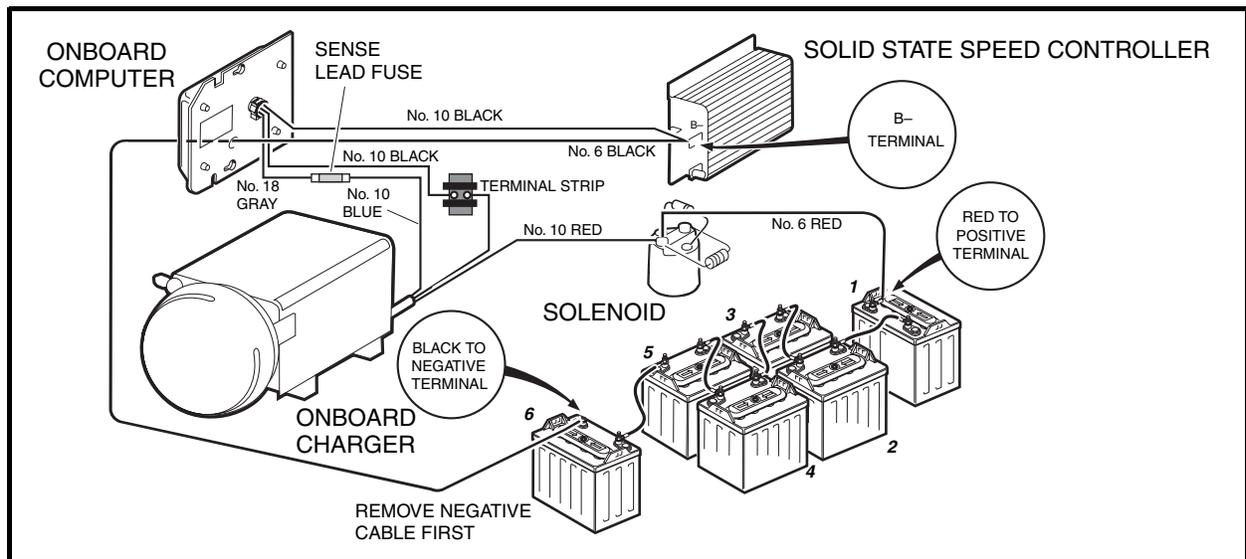
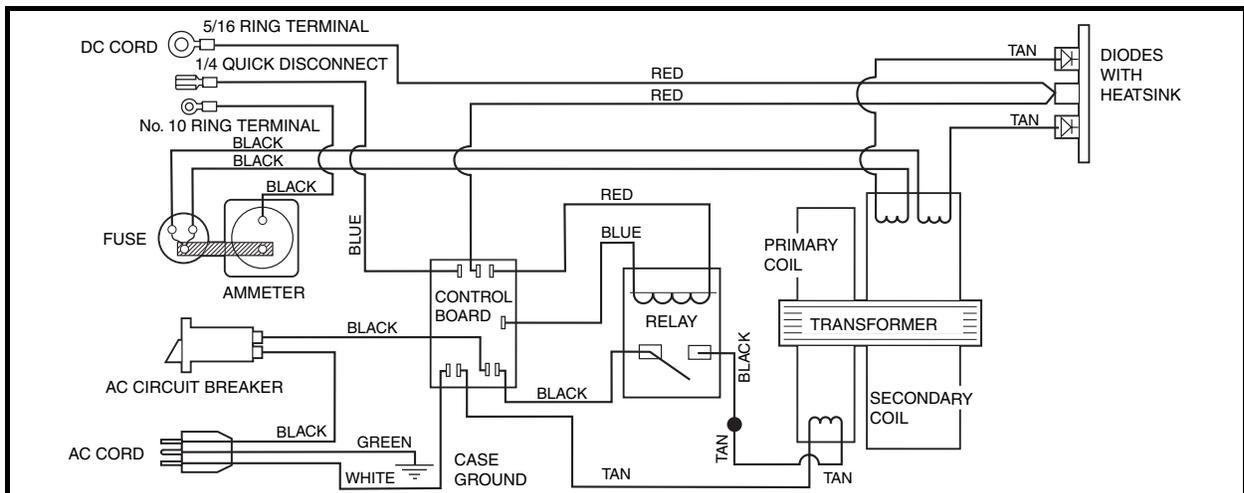

Figure 4-2 Charge Circuit and Battery Configuration – Carryall 6 and Transporter Vehicles
Figure 4-3 PowerDrive Onboard Battery Charger Wiring Diagram
The black wire from the charger is connected to the terminal block. The 10-gauge black wire from the onboard computer connects to the terminal block, and the 6-gauge black wire (also on the controller B- terminal) goes through the onboard computer and connects to the negative (-) post of battery no. 6. The red wire of the charger is connected to the large post of the solenoid (battery side). The blue wire (sense lead) from the charger is connected to the sense lead fuse, which is connected to the gray wire from the onboard computer (**Figure 4-2, Page 4-3**).
2. If the charger does not operate exactly as described above, refer to the wiring diagram and make sure that the vehicle is wired correctly (**Figure 4-2, Page 4-3**) and that the internal charger wiring is correct (**Figure 4-3, Page 4-5**).
- Knowledge of battery charger wiring and component terminology is required before attempting any repair (Figure 4-3, Page 4-5).
Improper vehicle or battery charger wiring	See Figure 4-2, Page 4-3 and Figure 4-3, Page 4-5